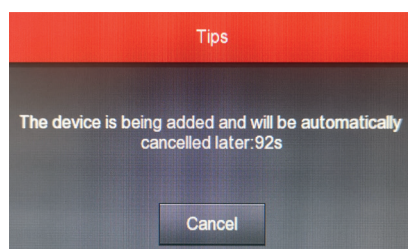

Fig.5
- Click on the "Wireless code Add" to display the notification in Fig. 5 signaling that the 120 sec. programming procedure was started.